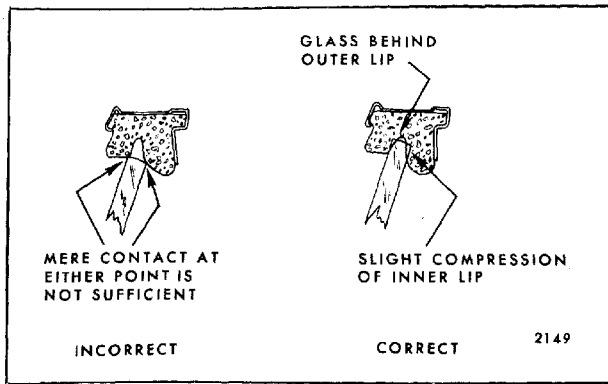

Fig. 7-78—Window to Side Roof Rail Weatherstrip Alignment
**IMPORTANT:** When adjusting glass in relation to side roof rail, position glass so that in closed position it is sufficiently high and inboard to tuck under weatherstrip outer lip as shown in Figure 7-78.